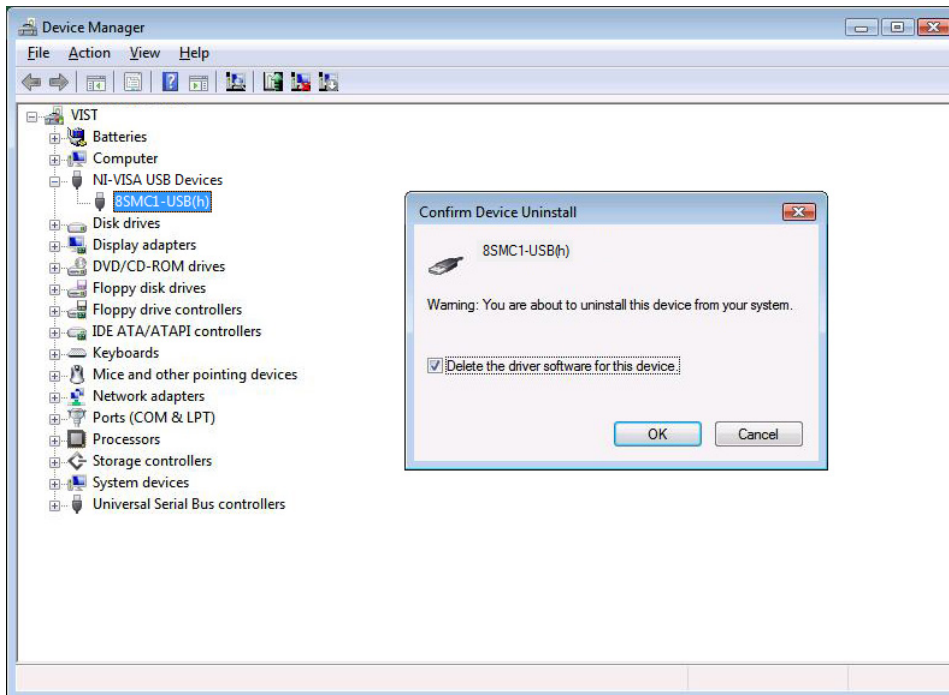
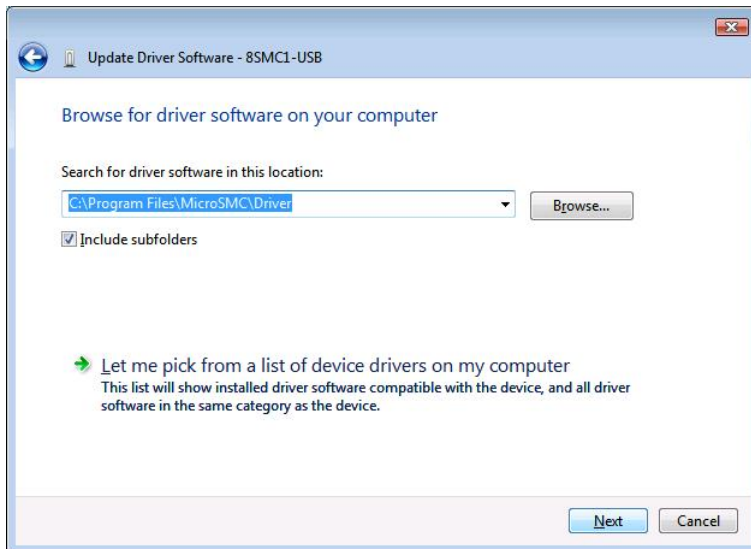

Figure 71. Uninstallation of NI VISA USB driver
Figure 75. Choose the folder with MicroSMC driver.
- Open Device Manager (choose Start->Control Panel->Device Manager), choose your 8SMC1-USBh device (it should be connected and switched on) and remove it (press Delete button, see Figure 71). In “Confirm Device Uninstall” window mark “Delete the driver software for this device” checkbox. Press “Ok”. 8SMC1-USBh device will be disappeared from Device Manager list.
- Choose the folder with MicroSMC driver, "C:\Program Files\MicroSMC\Driver" usually, and press "Next" (see Figure 75).
For switching from MicroSMC to NI VISA driver please does exactly the same as it is shown above. Moreover, mark "Delete the driver software for this device" checkbox when you delete MicroSMC driver (see Figure 71). Choose the folder with VISA driver, "C:\Program Files\SMCView\Drivers" usually, on Figure 75.